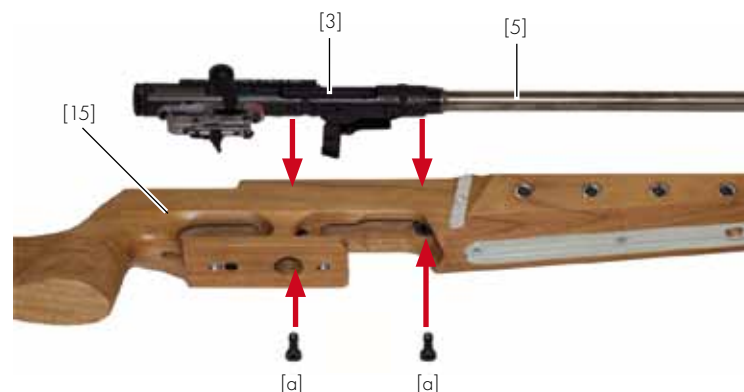

Fig.2 Attaching the barrelled action
- ▶ Lay the barrelled action [5] in the milled-out channel in the stock [15] (see Fig. 2).